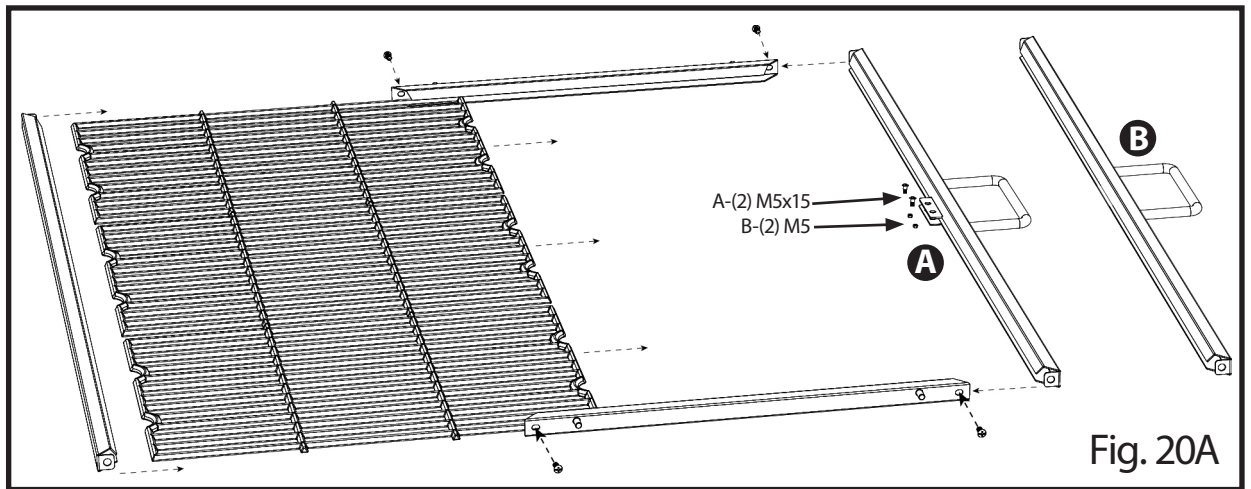

Fig. 20A
Attach cooking grid front frame with handle and (2) side frames together using (2) M5x10 flat screws (Fig. 20A) You may have front frame handle part **A** or **B**. Assemble as shown.